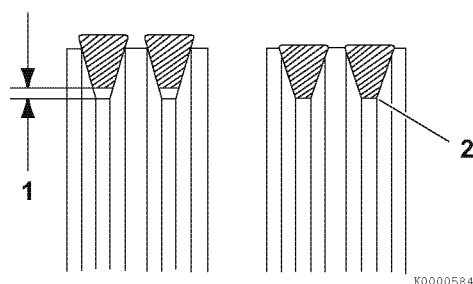

Figure 4
3. Tighten the V-belt to the proper tension. There must be clearance (1, **Figure 4**) between the V-belt and the bottom of the pulley groove. If there is no clearance (2, **Figure 4**) between the V-belt and the bottom of the pulley groove, replace the V-belt.